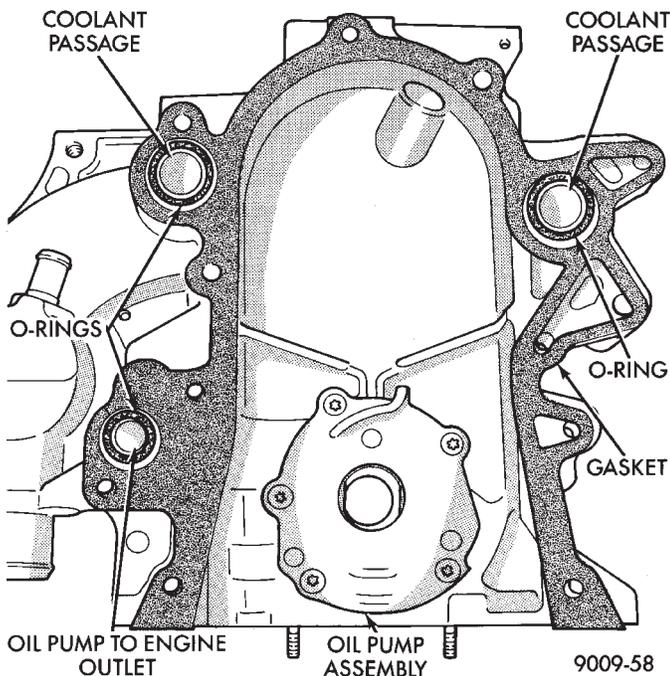
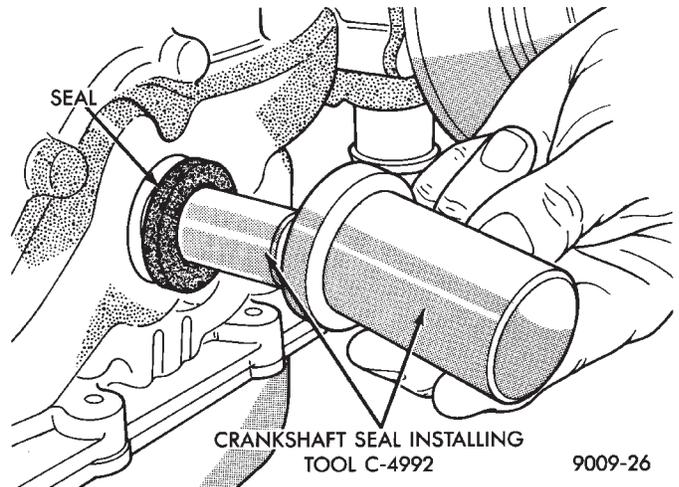
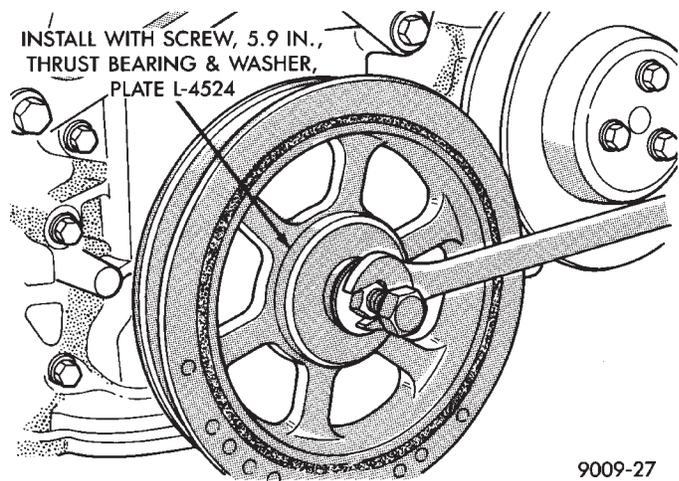

Fig. 6 Timing Chain Case Cover Gaskets and O-Rings
Fig. 7 Install Crankshaft Oil Seal
Fig. 8 Installing Crankshaft Pulley
(1) Be sure mating surfaces of chain case cover and cylinder block are clean and free from burrs. Crankshaft oil seal must be removed to insure correct oil pump engagement.
(2) Use a new cover gasket, O-rings. (Fig. 6).
(3) Rotate crankshaft so that the oil pump drive flats are vertical.
(4) Position oil pump inner rotor so the mating flats are in the same position as the crankshaft drive flats (Fig. 6).
(5) Install cover onto crankshaft. Make sure the oil pump is engaged on the crankshaft correctly or severe damage may result.
(6) Install chain case cover screws and torque to 27 N·m (20 ft. lbs.).
(7) Install crankshaft oil seal (Fig. 7).
(8) Install crankshaft pulley (Fig. 8).
- (1) Install new seal by using Tool C-4992 (Fig. 7).
- (2) Place seal into opening with seal spring towards the inside of engine. Install seal until flush with cover.
- (3) Install crankshaft pulley using plate L-4524. Thrust Bearing/washer and 5.9 inch screw (Fig. 8).
- (4) Install drive belt (Refer to Cooling System Group 7) for installation procedure.
- (5) Install inner splash shield and wheel.